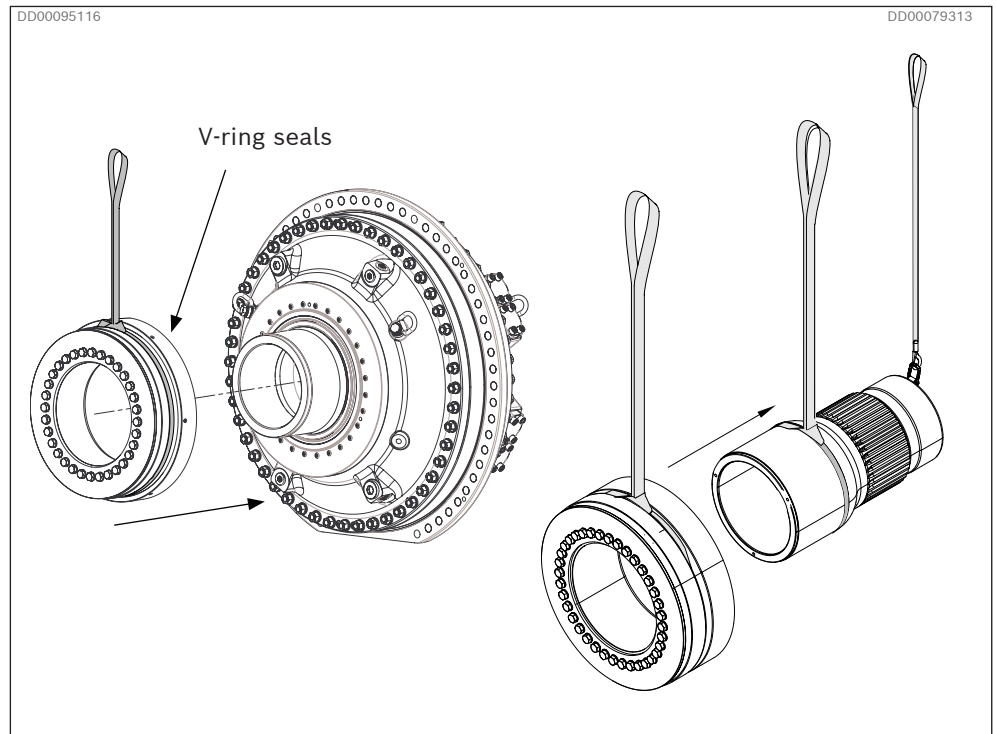
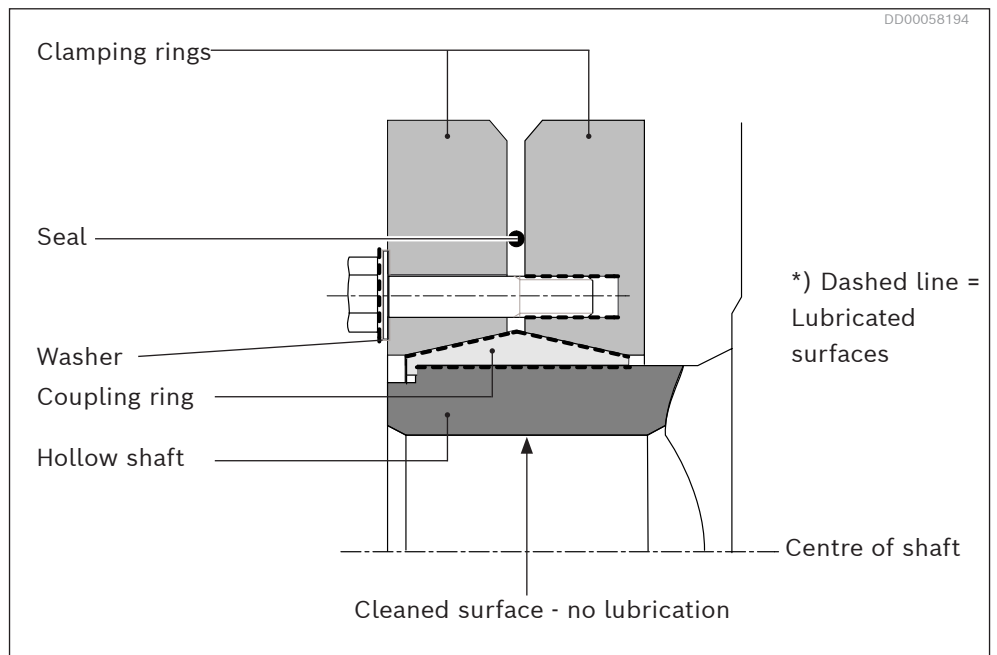

Fig. 39: Mounting of shrink disc to adapter shaft or coupling motor
Fig. 40: Shrink disc
1. You should note that the shrink disc are from the factory lubricated with grease on the conical surfaces and the screws (see *Fig. 40*). This lubricants shall remain on these surfaces
- ▶ Grease must under no circumstances be transferred to the surfaces between the driven shaft and the coupling motor or shaft adapter (see *Fig. 40*).
6. Mount the shrink disc on the hollow shaft. Use a approved sling between the clamping rings.(see *Fig. 39* and *Fig. 40*) The coupling must be pushed right up to the stop of the hollow shaft. If nescesary separate the clamping ring for easier mounting.
*) The conical surface between the coupling ring and the clamping rings as well as the screws shall be coated with Molykote G-Rapid plus paste, (see Fig. 40). This is done from the factory at delivery.